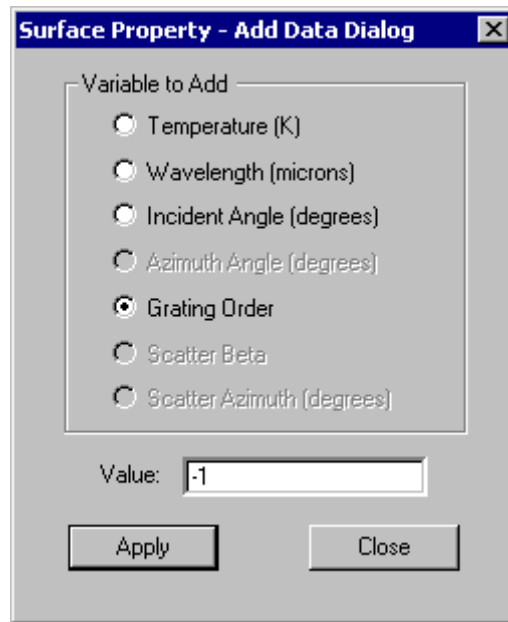

FIGURE 9.48 - Adding a grating order using the Add Data dialog box.
- 4. Enter the diffraction order and efficiency for both reflected and transmitted orders. You can add as many orders as you wish by typing in new orders in the Add dialog box and clicking Apply after each one as shown in Figure 9.48.